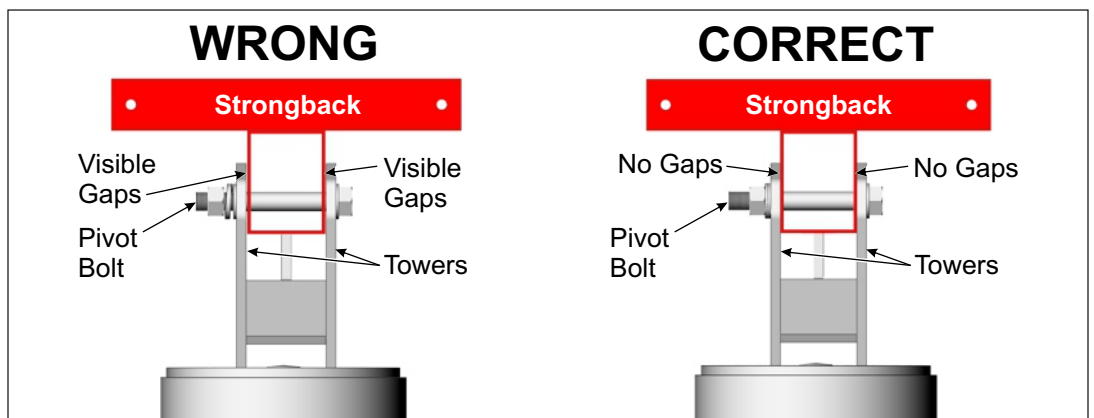

Figure 12-3: Tighten and Torque the Pivot Bolt
- C. After changing the tilt angle and tightening the Support Bar hardware, the Pivot Bolt must be re-tightened. The Mounting Sleeve Vertical Towers must be firmly clamped to the sides of the Strongback eliminating any gaps between the Vertical Towers and the Strongback. **Torque to 125-150 ft.-lbs.** (See Figure 12-3)